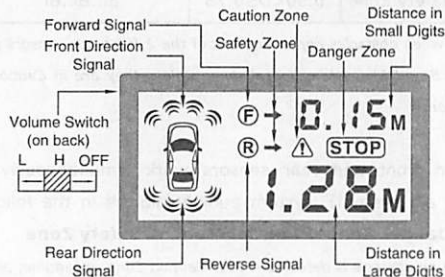

Fig.6-LCD Display for Parking Aid System
- Warning Modes - Please refer to Fig.6